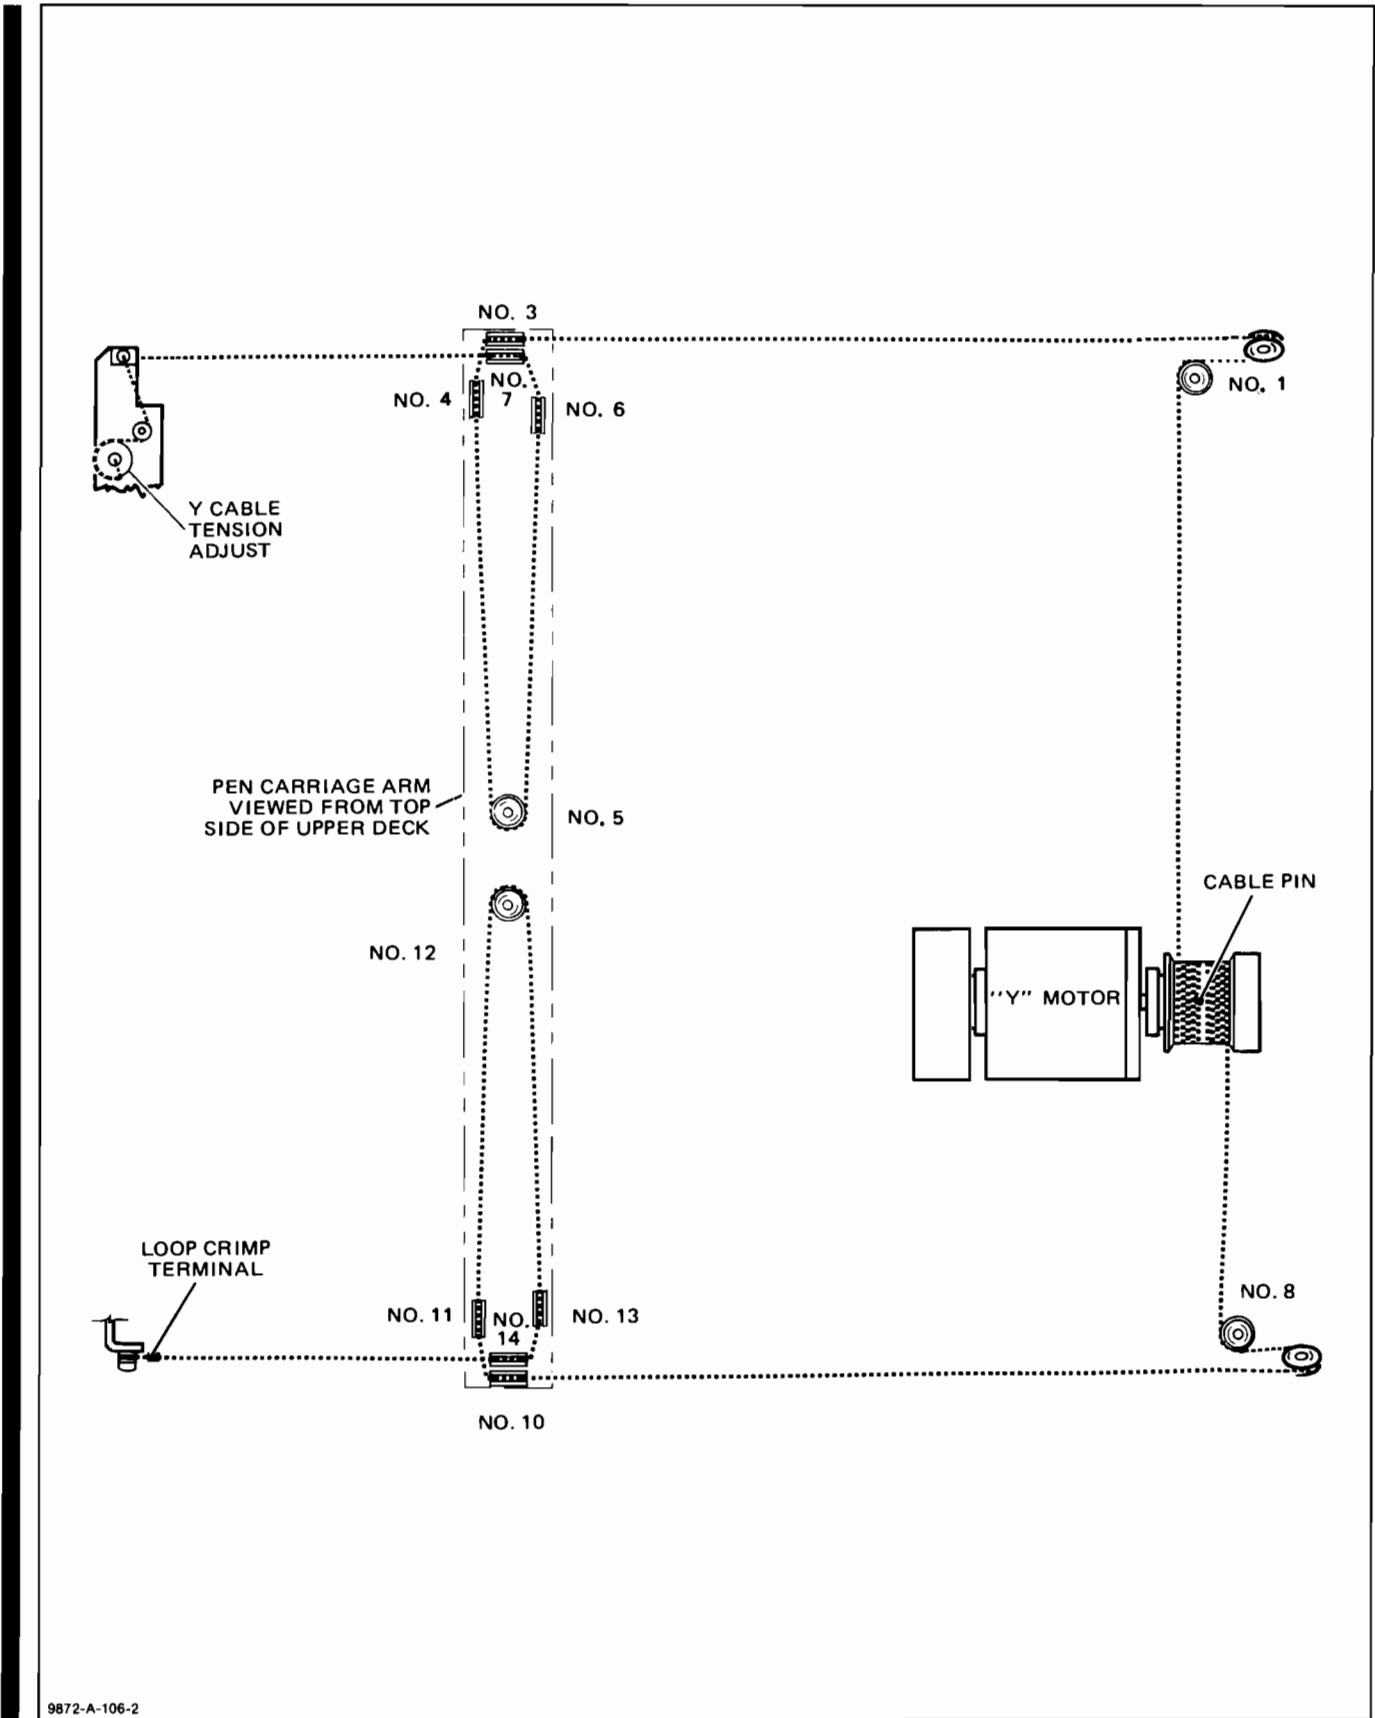

Figure 6-23. Y Drive Cable Stringing Diagram
- 6-89. Y-DRIVE CABLE INSTALLATION. See Figure 6-23. To install a Y-drive cable, proceed as follows: